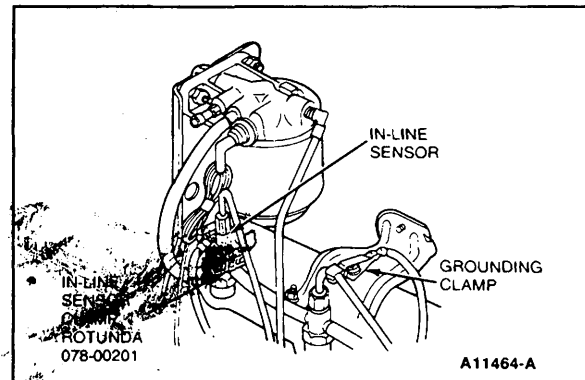

Figure 15 Luminosity Probe — Dynamic Timing
3. Attach clamp from Timing Meter Adapter Rotunda 078-00201 or equivalent, to the line pressure sensor on No. 1 injector nozzle (F-Series) or No. 4 injector nozzle (E-Series) and connect to timing meter (Fig. 15).